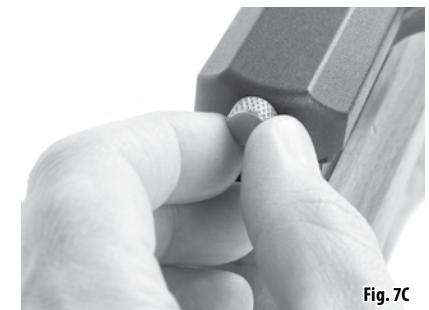

Fig. 7C
4. Loosen the knob on the back by turning counter-clockwise (Fig 7C).